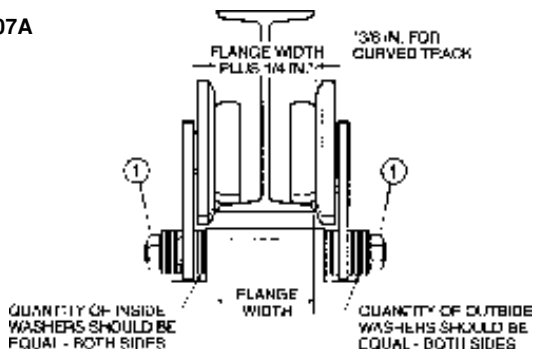

Figure 2-1. Sectional View of Trolley showing proper wheel and washer spacing
b. Trolley Mounted hoists are attached to moveable trolleys. If the hoist is mounted on an existing trolley, a qualified person shall determine that the trolley and its supporting structure are adequate to support the rated load and weight of the hoist. Hoist/trolley units may be shipped from the factory with trolley packaged separately. If the trolley can be installed directly over the end of the supporting beam, assemble trolley to hoist. Be certain that the spacing between wheel flanges, after assembly, is 1/4" greater than exact width of beam flange. (See Figure 2-1 below and instruction sheet furnished with trolley.) Using proper equipment, carefully lift trolley and hoist and install on end of beam.
For trolleys which are to be mounted along the span of a beam not having open ends, measure exact width of beam flange and assemble trolley to hoist so that spacing between wheel flanges is 1/4" (see Figure 2-1) greater than beam width (3/8" if beam has curves). This is accomplished by rearranging the spacer washers on the bolts connecting trolley side plates to hoist mounting lug. If trolley is shipped separate from hoist, see instruction sheets furnished with trolley for orientation and installation.
When proper spacing has been determined, loosen mounting nuts (item 1, Figure 2-1) to allow trolley wheels to spread far enough to pass over edges of beam flange. (Some installations may require complete removal of one trolley side plate.) Using adequate equipment, carefully lift the hoist and trolley so the wheel treads will rest on the lower beam flange. Replace side plate and washers if removed for installation. Replace suspension stud nuts.